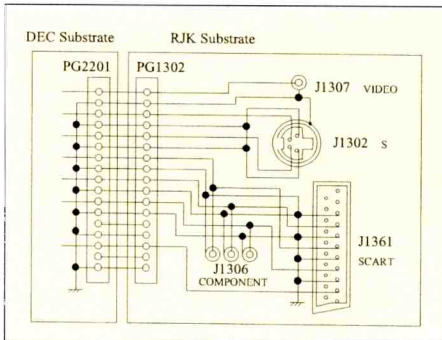

Figure 3
Figure 3 is a representation of the video output circuit. Analog composite video signals (CVBS), analog intensity signals (Y), analog chroma signals (C) and analog component signals (YPBPR/RGB) are sent from the DEC substrate to the RJK substrate by passing through connector 17P (PG2201-CN1302). From the RJK substrate, CVBS signals are output from output terminal J1307 and Y/C signals are output from output terminal J1302. Component signals are output from output terminal J1306 (YPBPR) or J1361 (RGB).